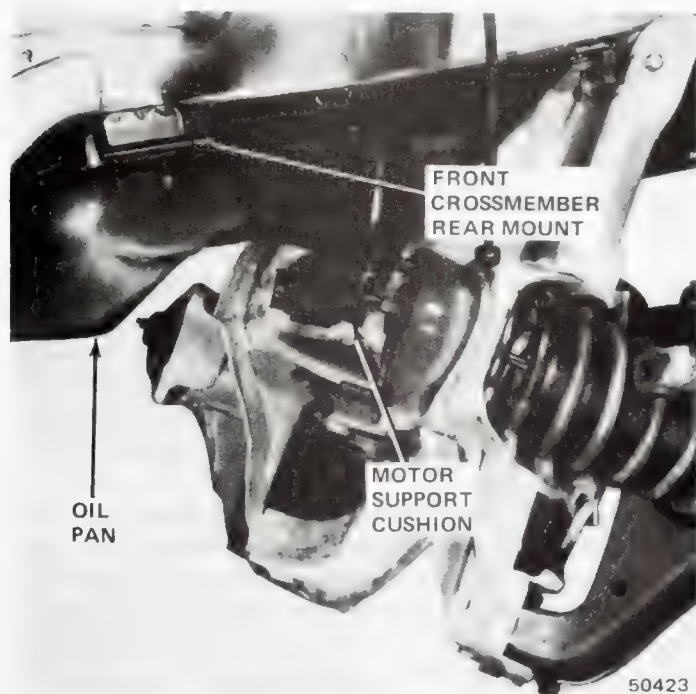

Fig. 1B-99 Oil Pan Removal—Pacer
- (1) Drain engine oil.
- (2) Install engine holding fixture (fig. 1B-70).
- (3) Disconnect steering shaft flexible coupling (rag joint) and use wire to position it aside.
- (4) Raise and support car.
- (5) Remove front engine support cushion through-screws.
- (6) Disconnect front brake lines at wheel cylinders.
- (7) Disconnect upper ball joints from spindles.
- (8) Remove upper control arms and move aside.
- (9) Support front crossmember with jack.
- (10) Remove nuts from front crossmember rear mounts and swing crossmember forward (fig. 1B-99).